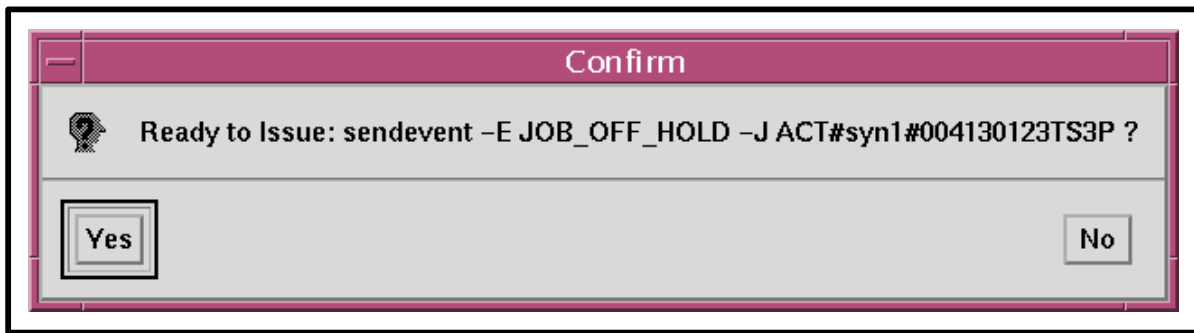

Figure 76. Confirmation Dialogue Box
- A confirmation dialogue box similar to Figure 76 is displayed requesting permission to proceed with sending the event.